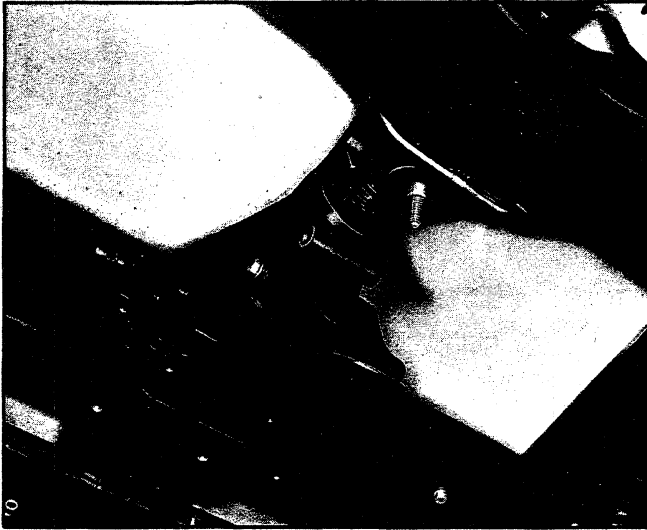

Fig. 91—Removing Carrier Front Support
5. Loosen bracket rear bolt and swing bracket down and to the rear (fig. 91).